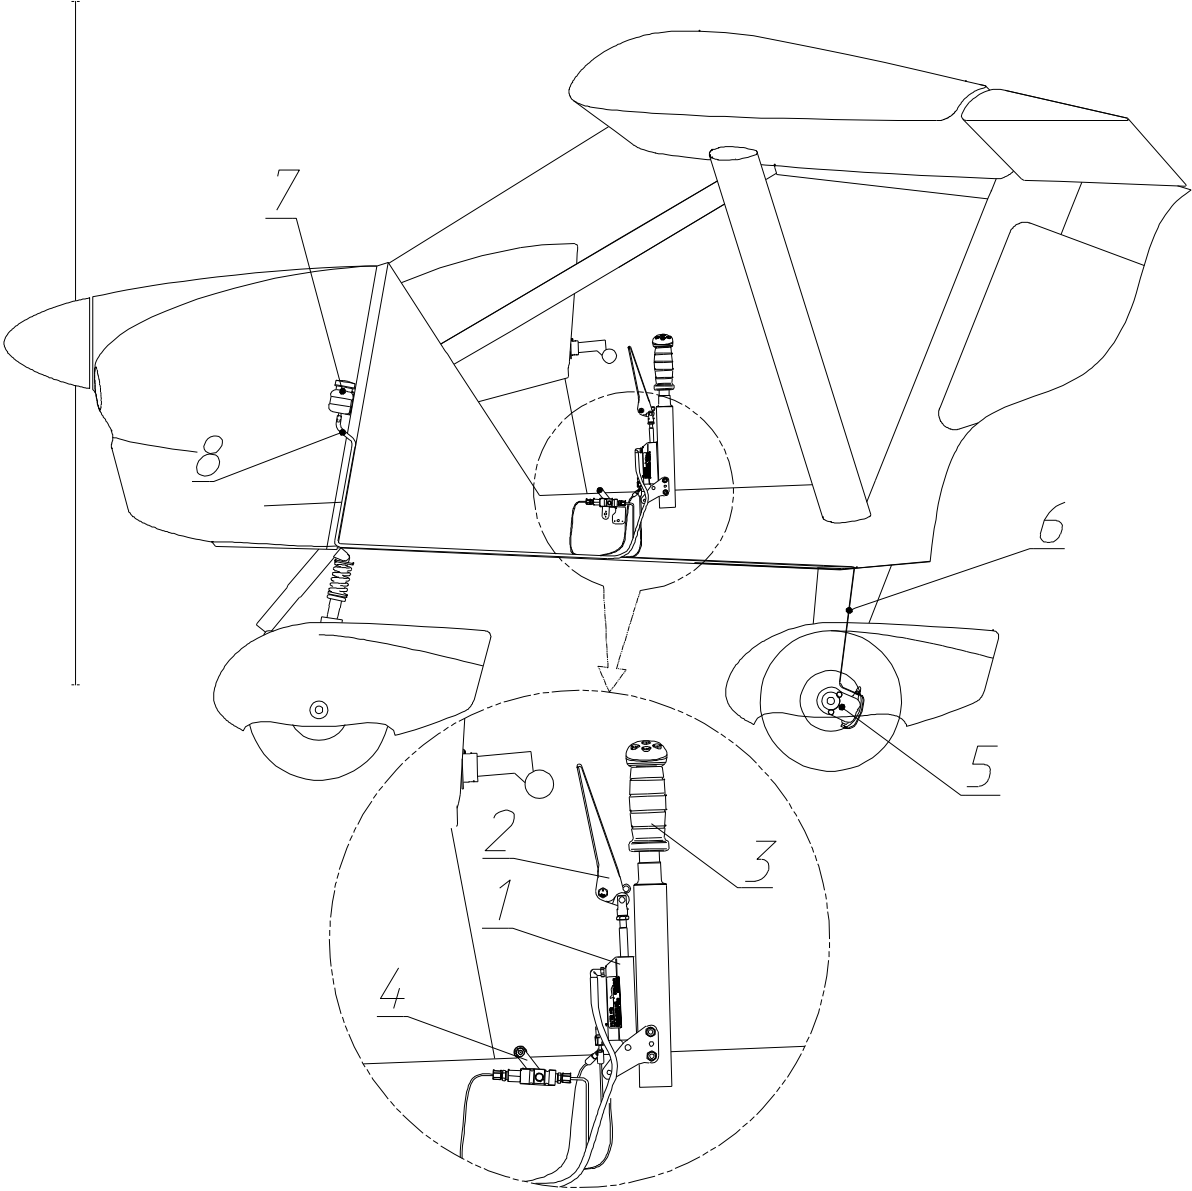

Fig. 12. Brake control system
The main wheel brakes (**Fig. 12**) are actuated hydraulically using the brake lever (2) (installed next to the throttle lever 3) controlling the pressure supplied from the master cylinder (1) to the slave cylinders (5) in the wheels.